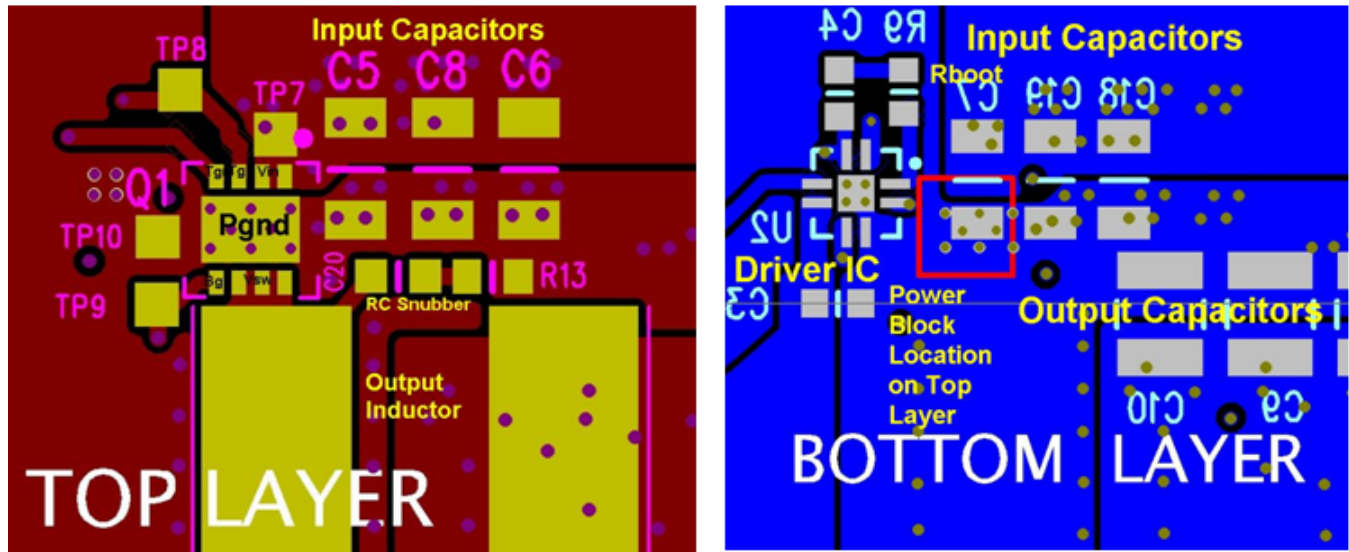

Figure 34. Recommended PCB Layout (Top Down)
- The placement of the input capacitors relative to the power block's VIN and PGND pins should have the highest priority during the component placement routine. It is critical to minimize these node lengths. As such, ceramic input capacitors need to be placed as close as possible to the VIN and PGND pins (see Figure 34). The example in Figure 34 uses 6  $\times$  10- $\mu$ F ceramic capacitors (TDK C3216X5R1C106KT or equivalent). Notice there are ceramic capacitors on both sides of the board with an appropriate amount of vias interconnecting both layers. In terms of priority of placement next to the power block, C5, C7, C19, and C8 should follow in order.
- The switching node of the output inductor should be placed relatively close to the power block VSW pins. Minimizing the node length between these two components will reduce the PCB conduction losses and actually reduce the switching noise level. In the event the switch node waveform exhibits ringing that reaches undesirable levels, the use of a boost resistor or RC snubber can be an effective way to easily reduce the peak ring level. The recommended boost resistor value will range between 1  $\Omega$  to 4.7  $\Omega$  depending on the output characteristics of driver IC used in conjunction with the power block. The RC snubber values can range from 0.5  $\Omega$  to 2.2  $\Omega$  for the R and 330 pF to 2200 pF for the C. Please refer to Snubber Circuits: Theory, Design and Application (SLUP100) for more details on how to properly tune the RC snubber values. The RC snubber should be placed as close as possible to the Vsw node and PGND see Figure 34. (1)
- Use the smallest drill size allowed in your design. The example in Figure 34 uses vias with a 10-mil drill hole and a 16-mil capture pad.